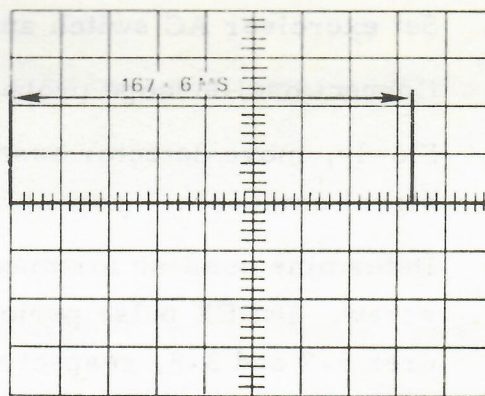

Figure 3-7. Index Pulse Period
- g. Set oscilloscope as follows, to monitor INDEX pulse period, as shown in Figure 3-7.
- Determine position for maximum signal amplitude and tighten mounting screw. INDEX pulse period and duration should be as shown in Figures 3-7 and 3-8, respectively.